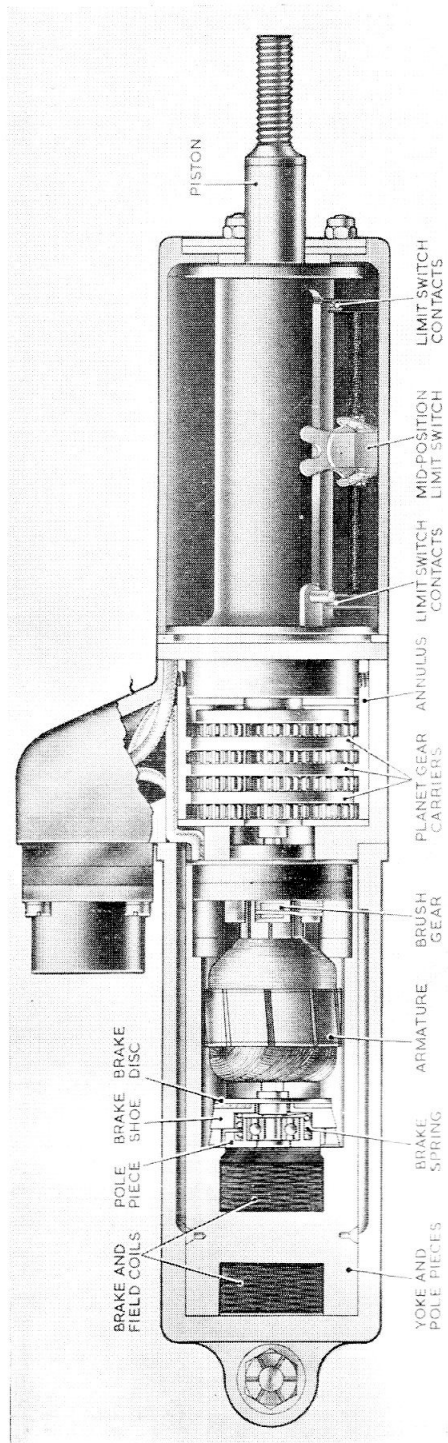

Fig. 1. Sectional view of actuator, Type EJ50, Mk. 24
2. This actuator follows the general design described in the Appendix to A.P.4343, Vol. 1, Sect. 17, Chap. 2 dealing with Western actuators. The rating of the actuator is 1 minute at nominal load, with a current consumption of 1.5 amp. The general internal construction can be seen in the sectional drawing given in fig. 1, where the piston is shown extended.